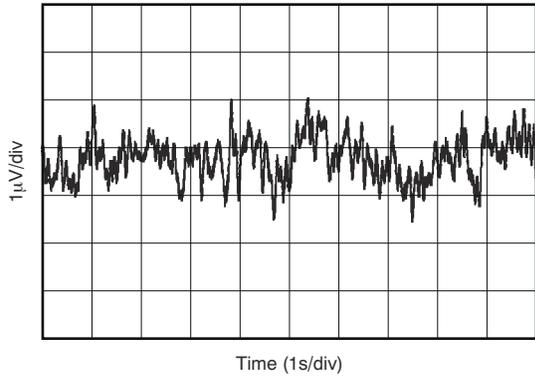

Figure 5-13. 0.1-Hz to 10-Hz Noise
0.1-Hz to 10-Hz Noise	Figure 5-13